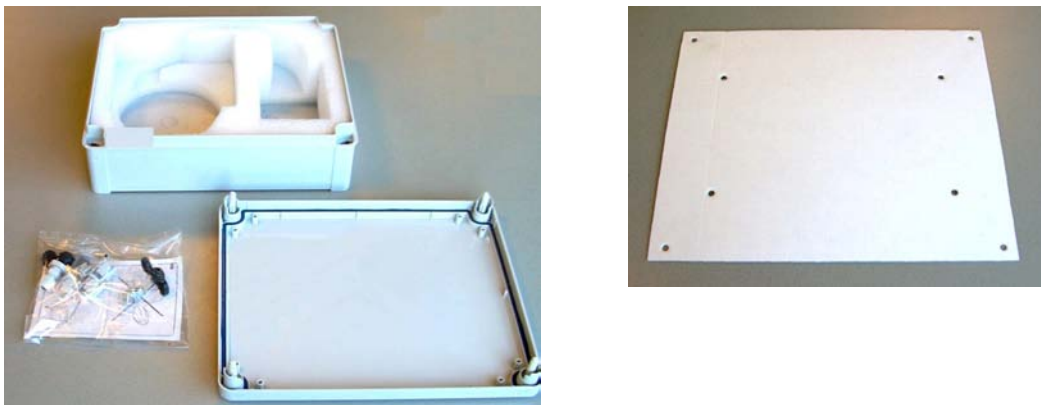

Figure 1. Contents of the box.
2. Remove the cover from the cabinet. The contents of the cabinet is shown in Figure 1. Contents of the box.